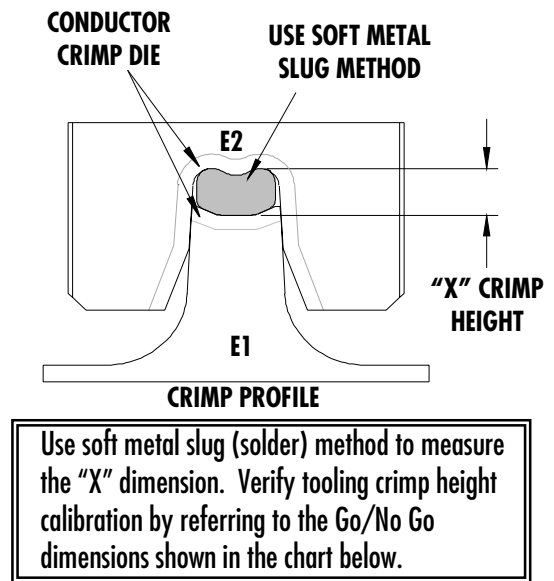

Figure 2
3. The recommended method of measuring the crimp height of the conductor dies is the soft metal slug method, (See Figure 2).